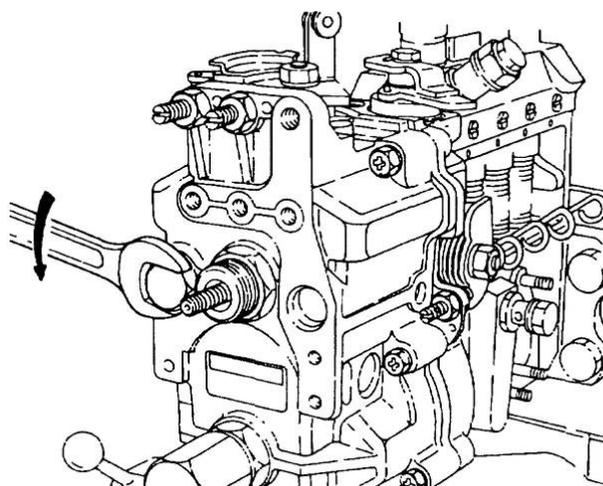

Figure 87 Removal of the Torque Cam Rod Adjuster Plug
- j. Remove the plug (19 mm) covering the torque cam rod adjuster (Figure 87).